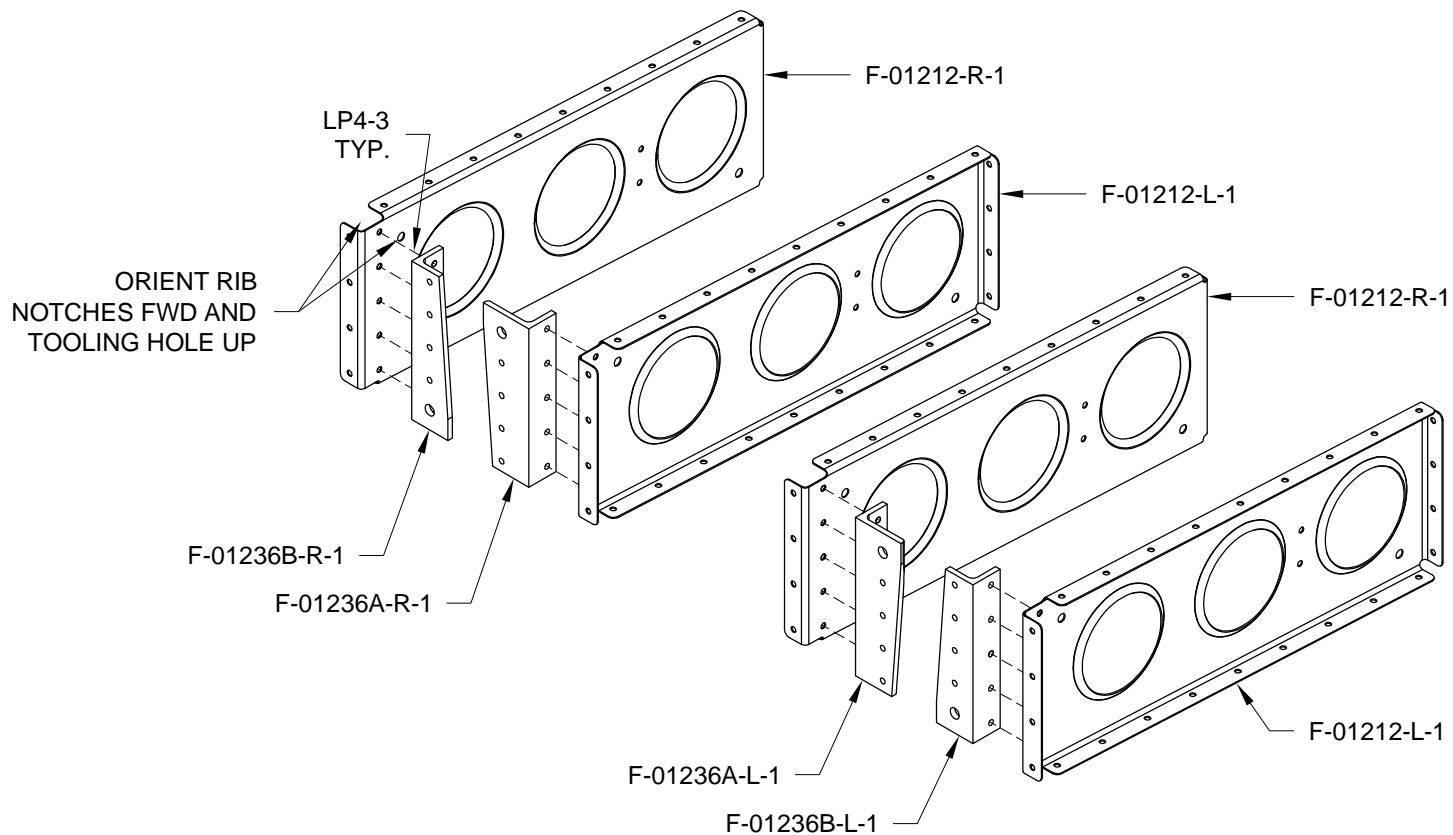

FIGURE 4: RIVETING STEP RIB ASSEMBLIES
Step 5: Cleco then rivet the called out angles to the step ribs depicted in Figure 4. Hereafter refer to as Step Rib Assemblies.